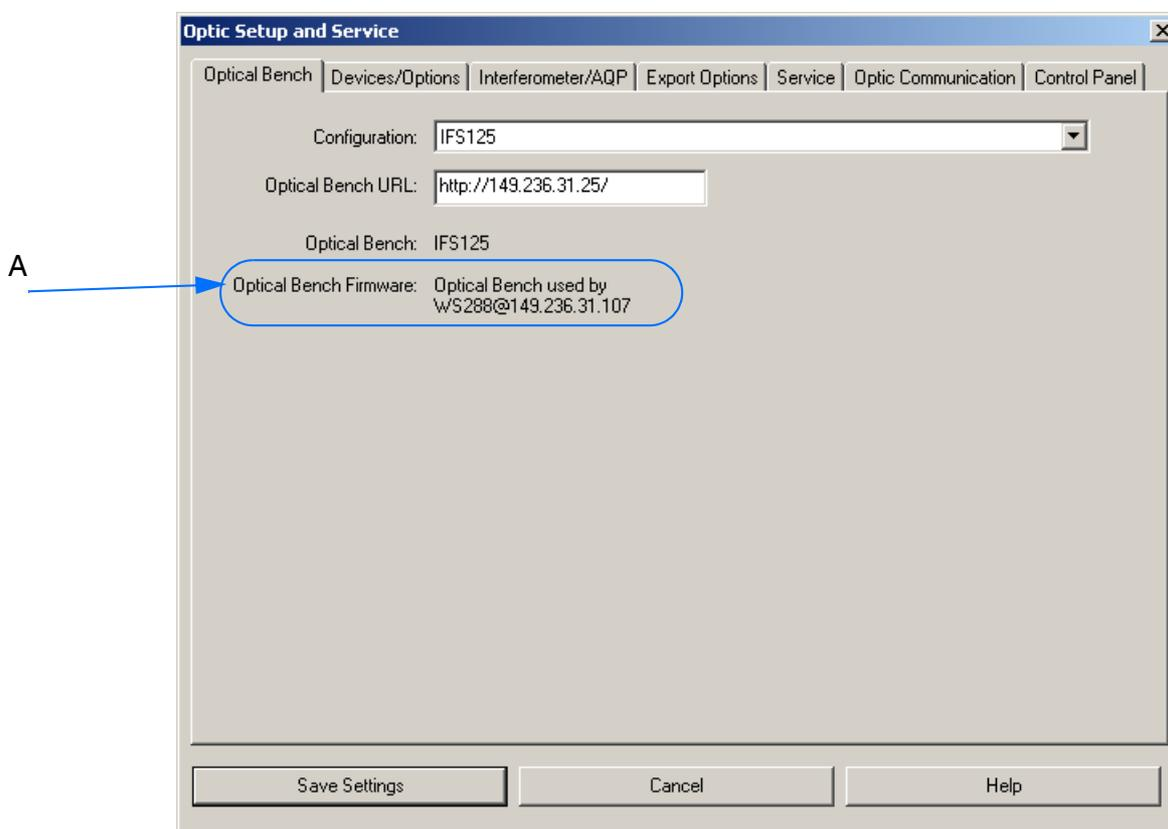

Figure 48: OPUS *Optic Setup and Service* dialog
- Only one OPUS™ instance can access the spectrometer at a given time. Any further OPUS instance - on a different PC - will be automatically blocked, indicated by a gray status light in the lower right corner of the concerned OPUS™ instance, and the *Optic Setup and Service* dialog as figure 48 shows.